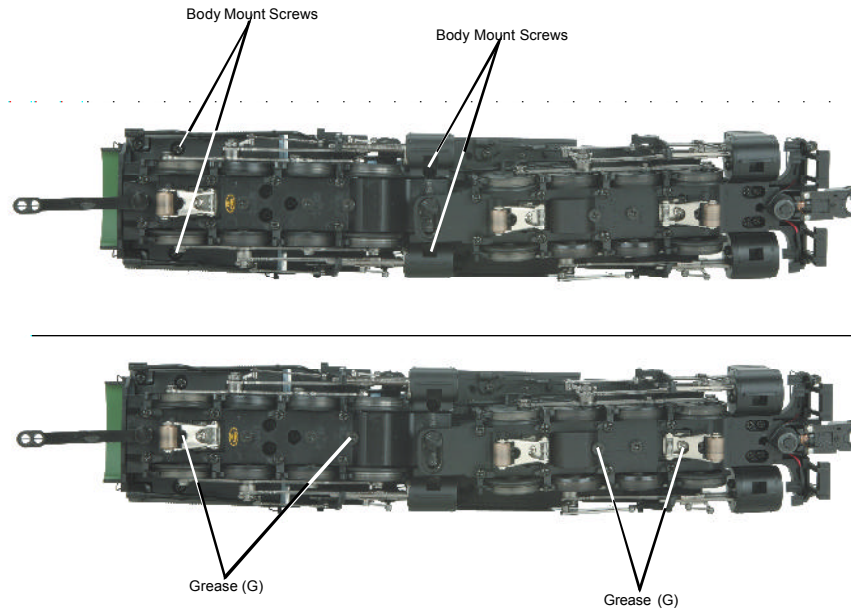

Figure 6: Removing The Body And Lubricating The Grease Points
2. Remove the Phillips screws (marked "GREASE") located at each set of wheels and under pickup rollers (Fig. 6).
You should also grease the leading and trailing locomotive truck tongues to enhance their ability to slide on the chassis. Follow the grease points shown on Fig. 6.